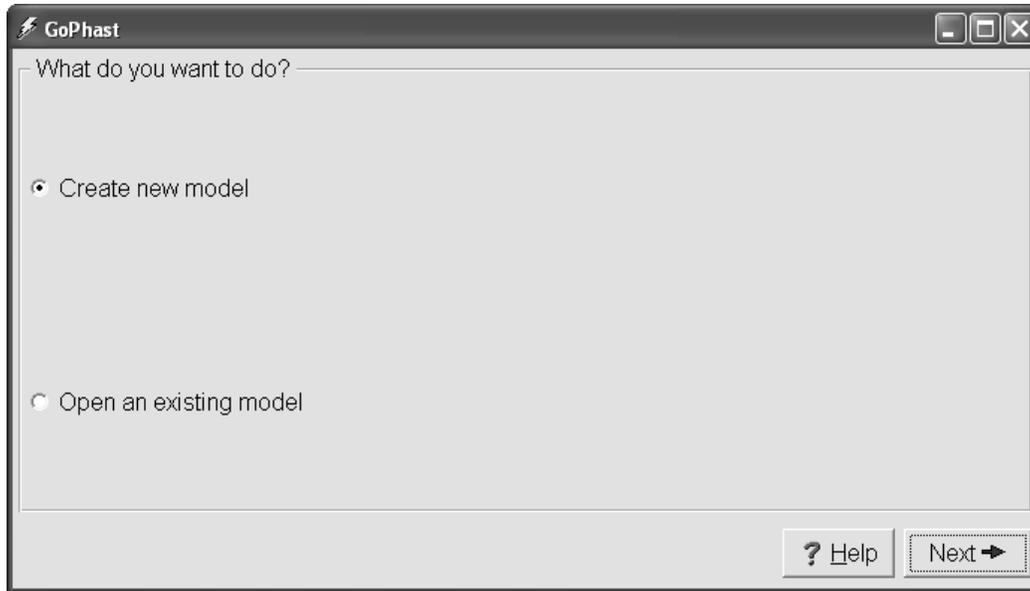

Figure 27. GoPhast Start-Up dialog box.
1. Start GoPhast by double-clicking on its icon. The **Start-Up** dialog box shown in figure 27 will appear. If it is not already selected, select **Create new model**. Then click the **Next** button.